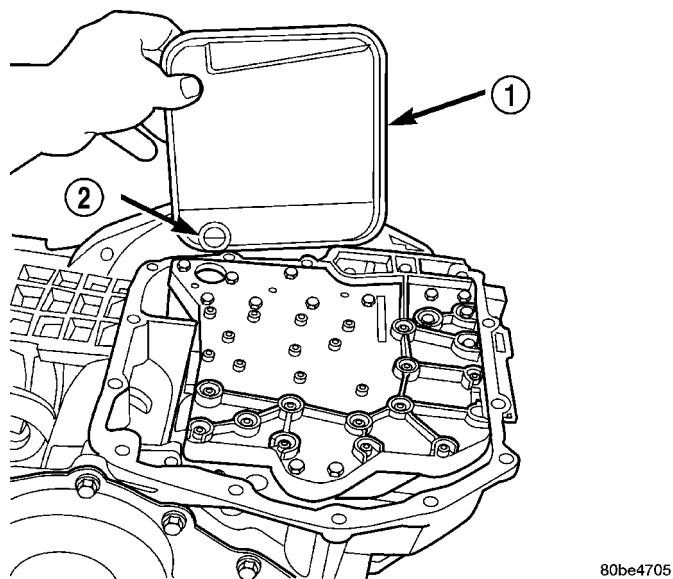

Fig. 155 Install Oil Filter
(65) Install oil filter and new o-ring (Fig. 155).